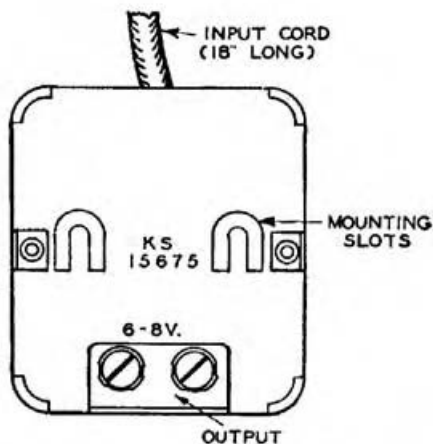

Fig. 3—KS-15675 Transformer (Rear View)
8.03 The KS-15675-L1 transformer must be mounted near the power supply outlet as it is equipped with an 18-inch cord. It may be mounted on a baseboard or other suitable surface by using two No. 4 R.H. blue wood screws (see Fig. 3). Where appearance is a prime consideration the transformer may be located in a basement, furnace room, or other accessible location, provided the wiring limitations covered in 8.04 are not exceeded.